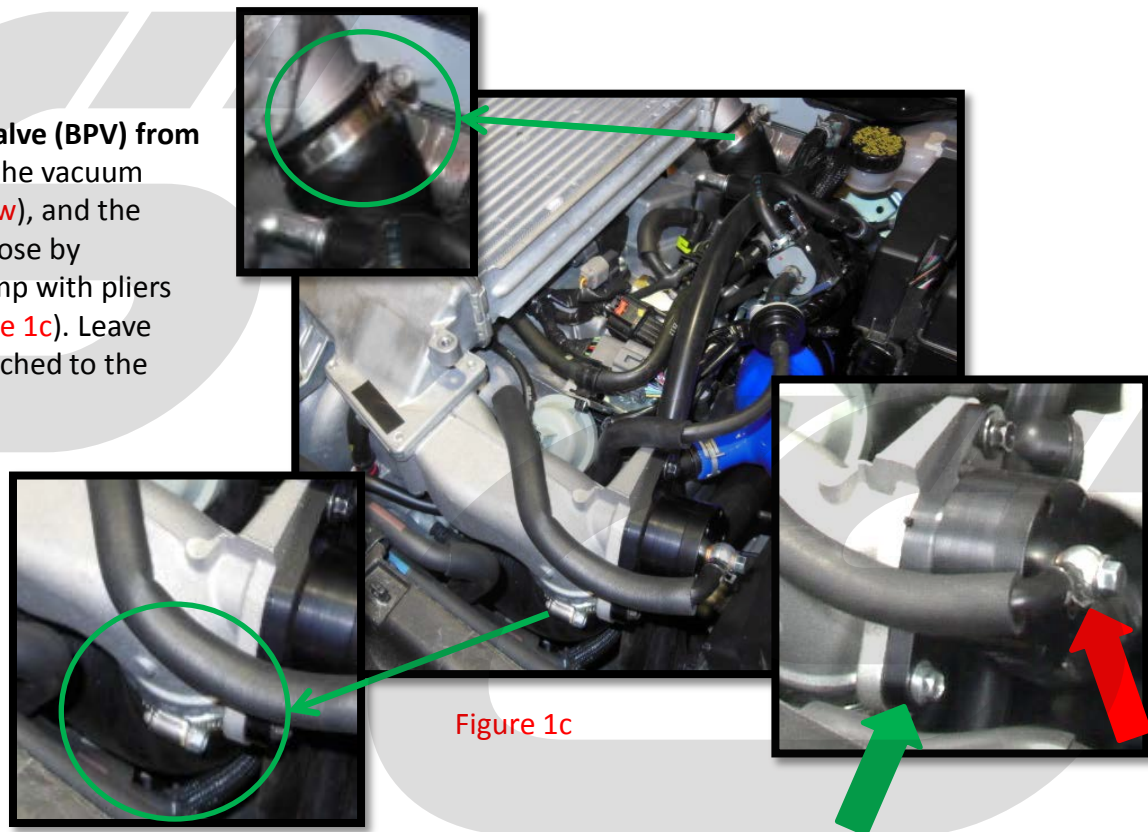

Figure 1c
- c) Remove the clamps for the throttle body and turbo boost tubes from the intercooler. Use a 10mm socket to loosen the clamps (green circles in Figure 1c).
- d) Detach the bypass valve (BPV) from the intake. Remove the vacuum signal hose (red arrow), and the large BPV to intake hose by compressing the clamp with pliers (green arrow in Figure 1c). Leave the bypass valve attached to the intercooler pipe.